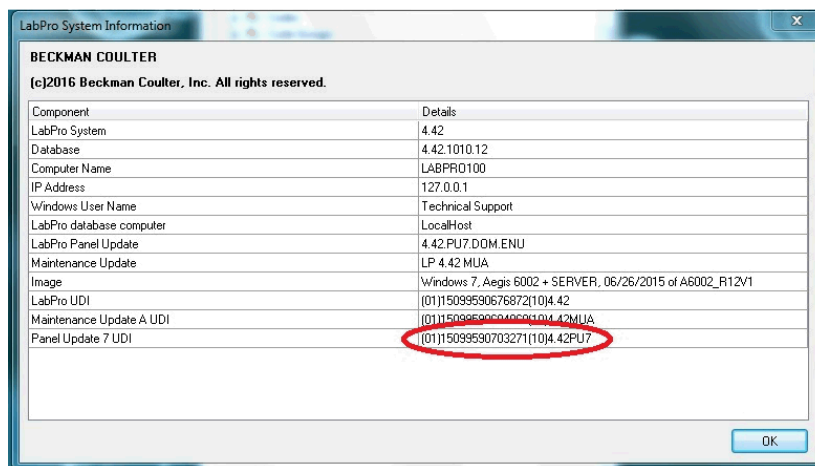

Figure 10: LabPro System Information
2. Look for Panel Update 8 UDI (See Figure 10) and confirm it is the same number on PU-08 CD.